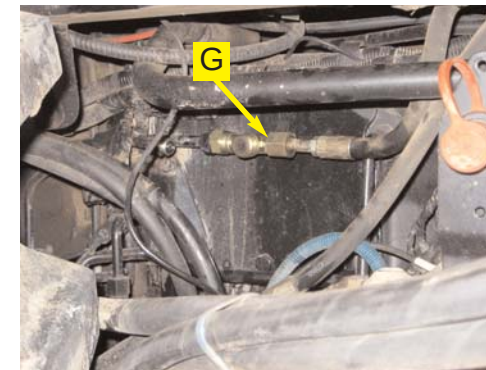

Figure 3c. Installed pressure fitting.
- b. Install the provided run tee (G) to the steel pressure line and reattach the rubber line to the end of it. (Figure 3c.)